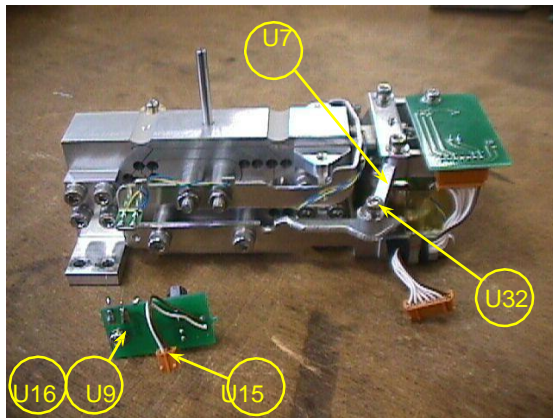

Fig.15
- Loosen the P4 M3x25 screws (U16) and remove the Assy,Relay (U9) and Spacer (U15) (Fig.15).